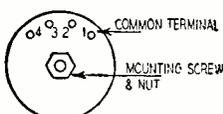

Fig. 2—Subminiature switch—rear view.
Ordinarily, we might expect to need two switches for this oscillator, one to close the battery circuit, the other to switch C5. Both functions have been combined through a special four-position switch (Lafayette SP-88). This is a tiny unit, less than 1/2 inch deep and only 3/4 inch in diameter. Fig. 2 shows a rear view of the switch terminals. When the knob is rotated fully counterclockwise (as viewed from the front), the common terminal (1) is isolated from the others. In the next position terminals 1 and 2 are shorted. In the third position terminals 1, 2 and 3 are shorted. The last position shorts all